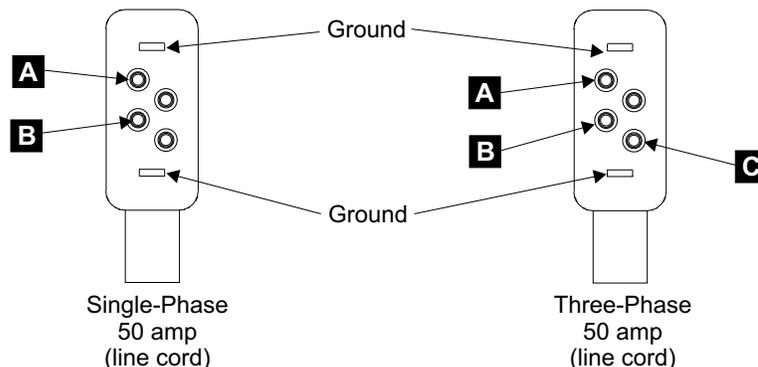

Figure 279. Female Connector on the Mainline Power Cable (S0080491)
- For single-phase AC see Table 24 on page 285 and Figure 279 on page 285.
- For three-phase AC see Table 25 on page 285 and Figure 279 on page 285.